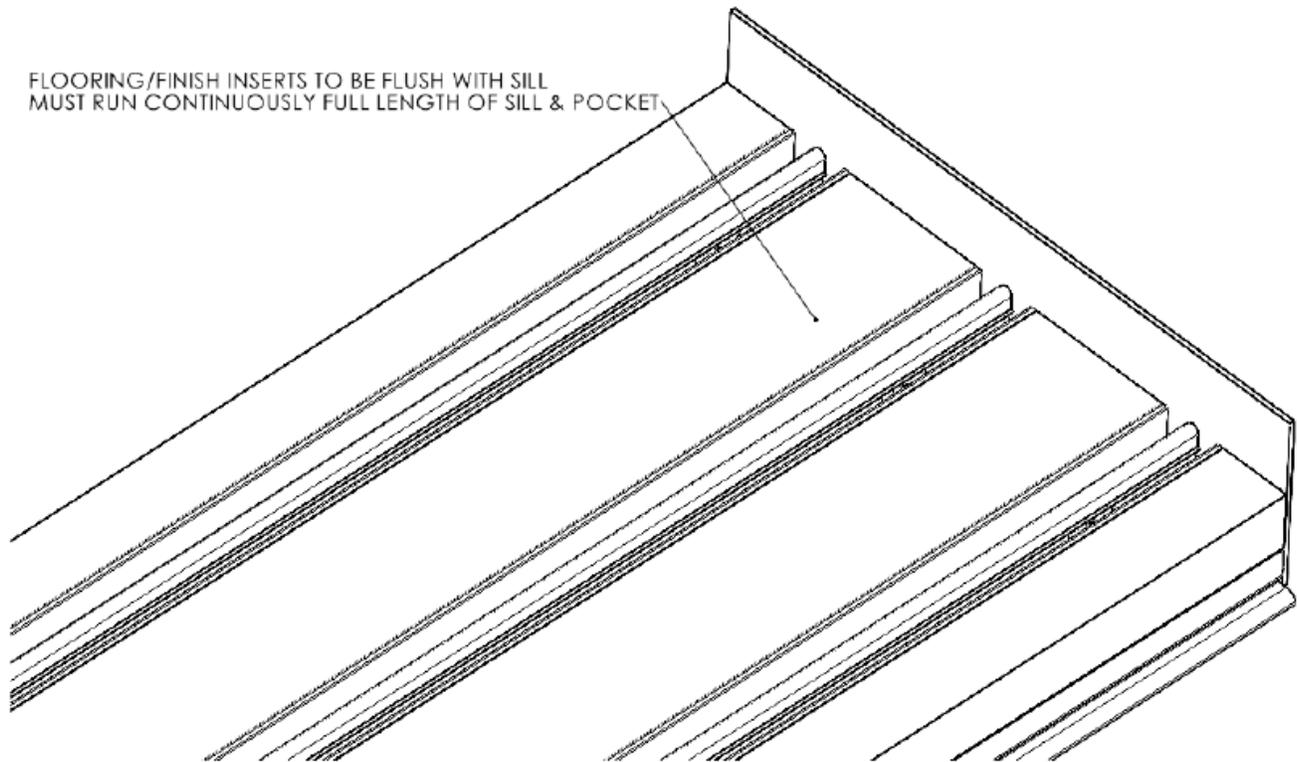

Figure 8
- No water management (sill with no weeps or drain fitting) (See **Figure 8**).
**NOTE: Sill types with limited water rating, no water rating, or no water management should only be used in well-protected areas where a roof overhang will prevent driving rain and the exterior finish grade is stepped down and/or sloped away from the sill to help prevent water penetration. See Figure 8. Proceed to Step 10.**